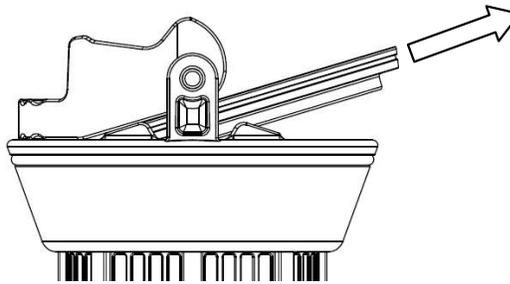

Fig. 8: Removal of bag ring from basket ring (side view)
- 2.2.1.3 Remove bag retention ring from basket assembly, by lifting the edge opposite the handle and pulling ring out at an approximately 20° angle. (See fig. 8.)
2.5.1.6 Remove bag retention ring from basket assembly, by lifting the edge opposite the handle and pulling ring out at an approximately 20° angle. (See fig. 8.)